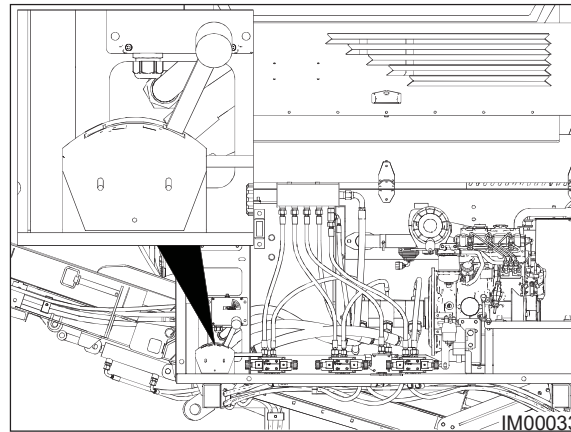

Fig: 9.6 - Throttle Lever
7. Using the Throttle (Fig: 9.6), reduce the engine speed to idle (950 RPM).